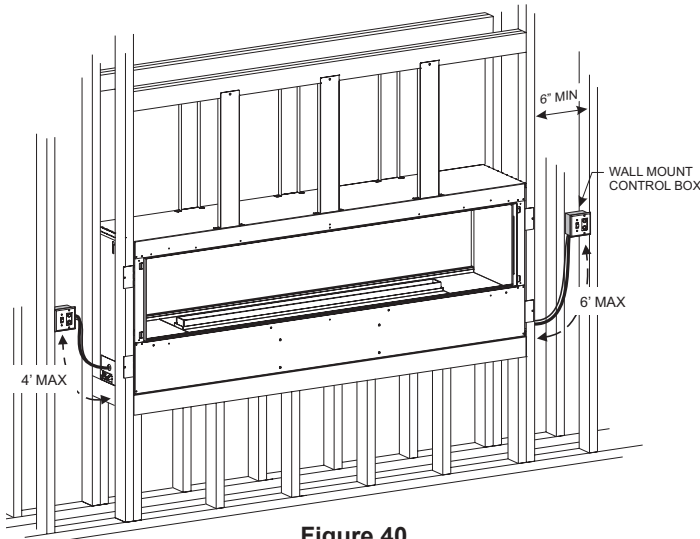

Figure 40
10. Install the wall-mounted control box within 6 feet to the right side or 4 feet from the left. See Figure 40.